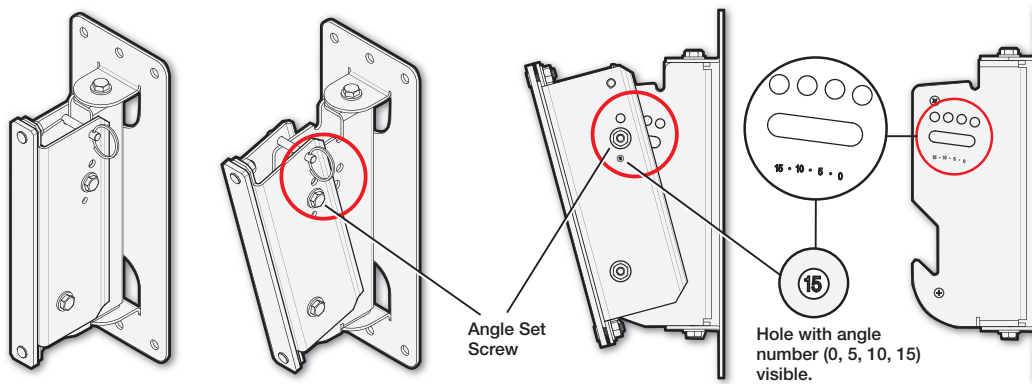

Figure 17. Set Tilt Angle with Angle Set Screw
2. Attach speaker to Wall Bracket Assembly by lowering the Speaker Bracket and bottom Angle Set Screw onto the Wall Bracket Assembly mounting hooks (see figure 17, **1**) and push speaker towards the wall until the Security Pin locks into the Security Pin Hook (**2**).
If the speaker is to be set at an angle other than one of the presets, insert the Angle Set Screw through the angle adjustment slot (see figure 17). Position speaker at required angle and tighten Angle Set Screw to 85-90 in-lb (7.0- 7.5 ft-lb) (9.6 - 10.1 N-m) to secure.